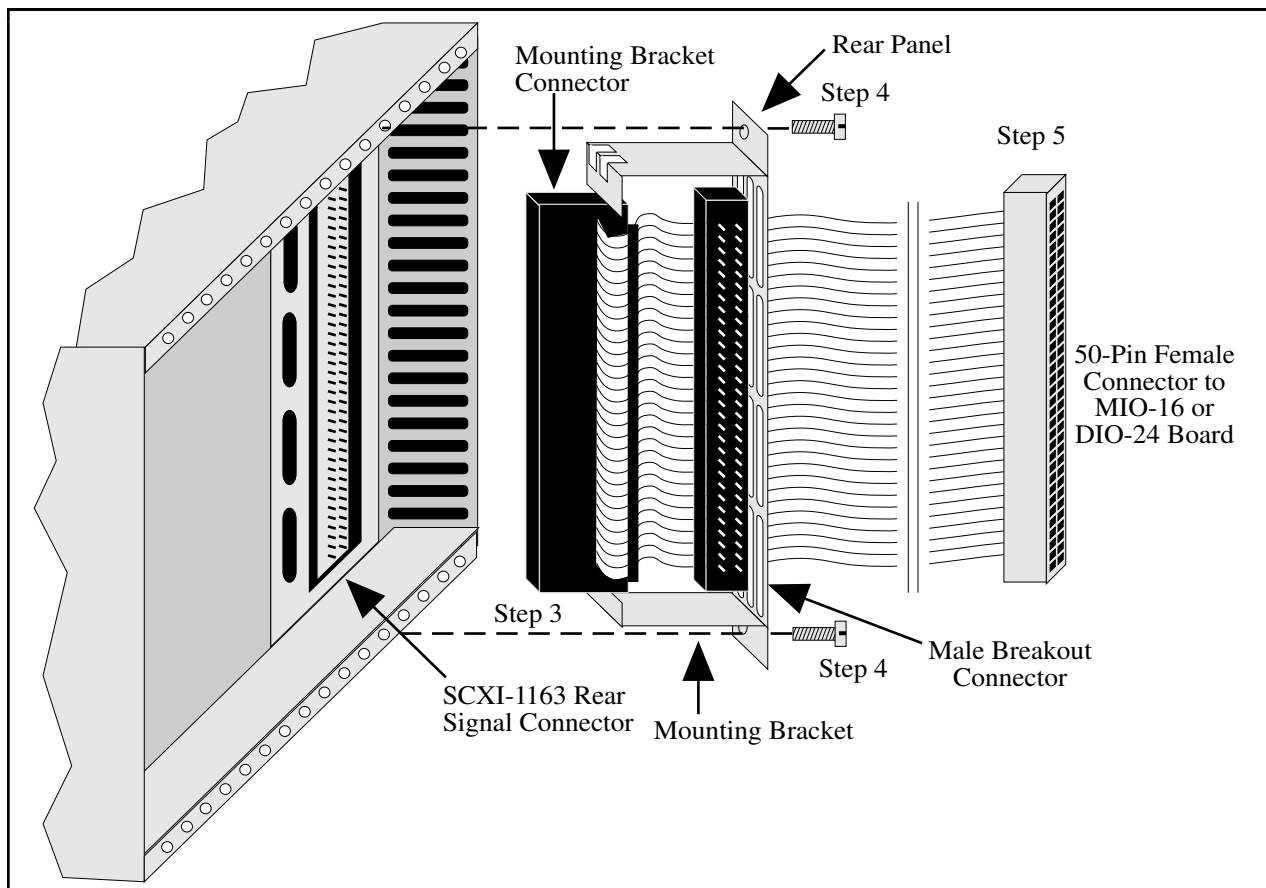

Figure E-1. SCXI-1340 Installation
3. Plug the mounting bracket connector onto the module rear signal connector (see Figure E-1). An alignment tab on the bracket enters the upper board guide of the chassis.